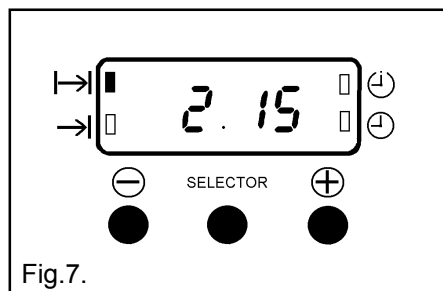

Fig.7.
- iii) To set the length of cooking time, press the Selector Control button until the 'Cook Time' indicator is illuminated (|→|). Press the increase control (⊕) until the required length of cooking time is displayed, e.g. 2 hrs 15 mins as Fig. 7. If necessary depress the decrease control (⊖) until the correct time interval is achieved.